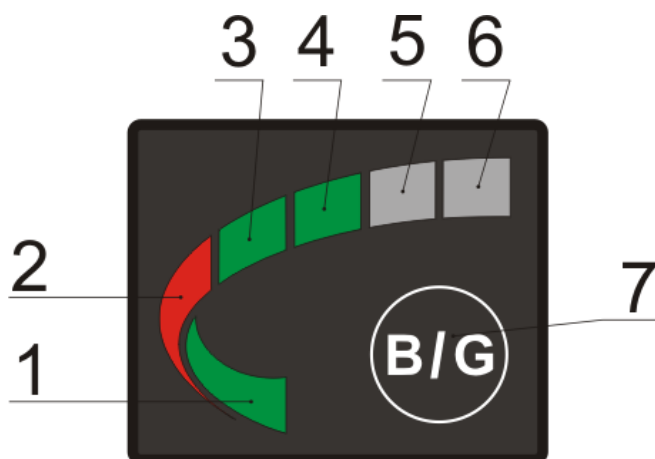

Figure 1. LED switchboard chart
3.2. Working modes indication on the GAS ON Indicator (Pos. 1 in Fig. 1)